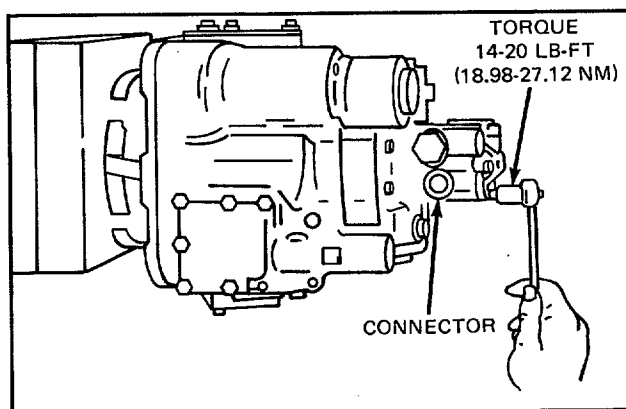

Figure 4.
4. Install connector to charge pump (refer to Fig. 4). Torque 14-20 lb ft (18.98-27.12 Nm).